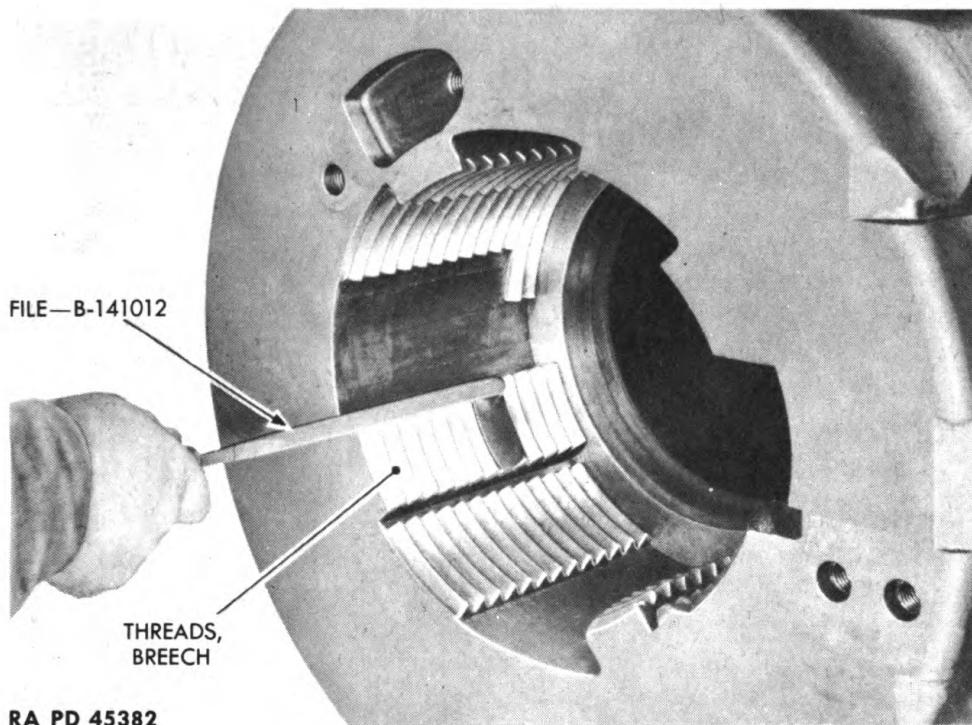

Figure 73—Repairing Bruised Breech Threads
(1) Clean all parts of the breech mechanism thoroughly in SOLVENT, dry-cleaning.
(2) Examine all parts carefully for cracks, wear, or breakage.
(3) Examine closely for cutting or abrasions on the pressure side of breechblock threads, and breech recess threads in breech ring. Remove scoring or bruises on threads with breech thread file B141012 and polish with CLOTH, crocus. CAUTION: Remove only enough metal to eliminate the score or bruise (fig. 73).
(4) Repair other burred or roughened parts in same manner as above.
(5) Replace worn or damaged parts.
(1) Clean barrel assembly thoroughly with SOLVENT, dry-cleaning.
(2) Examine barrel assembly as outlined in paragraphs 13, 14, and 15.
b. **Bruised Breech Recess Threads.** Remove scoring or bruises on breech recess threads with breech thread file B141012 (fig. 73) and polish with CLOTH, crocus. CAUTION: Remove only enough metal to eliminate score or bruise.